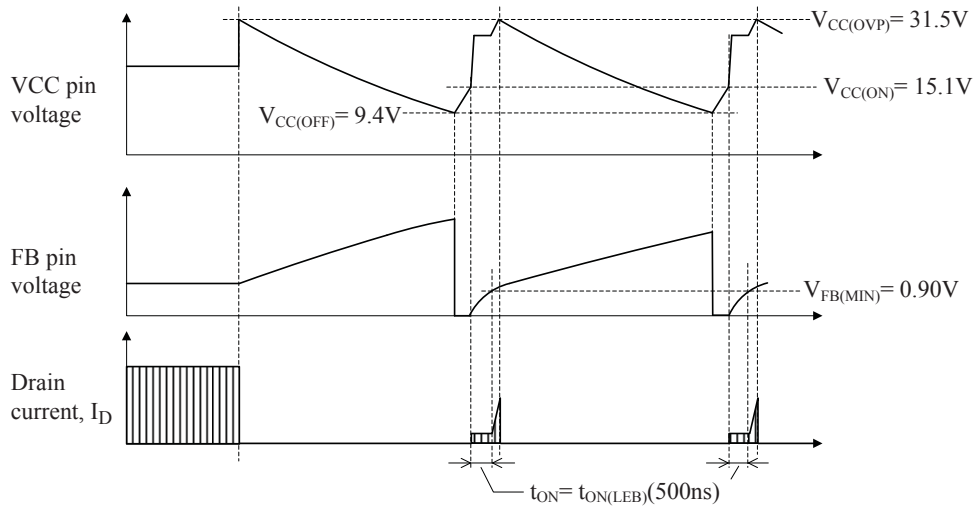

Figure 37. Waveforms when VCC pin OVP is being activated (LC552xD and LC552xF)
- VCC Pin Overvoltage Protection. figure 37 shows the waveforms of the OVP function. When the VCC pin voltage with reference to the S/GND pin reaches and exceeds $V_{CC(OVP)} = 31.5\text{ V}$ or more, OVP is activated and the IC stops switching operation.